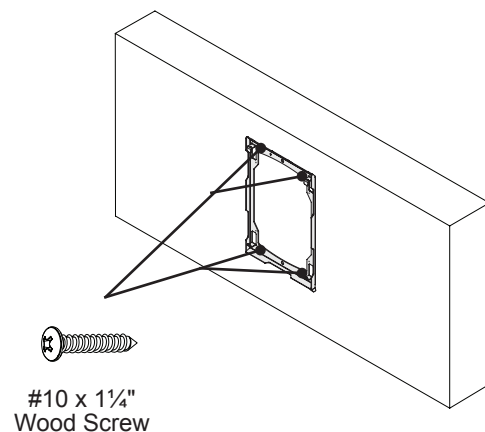

Figure 4
- 8 Insert four (4) #10 x 1¼" wood screws into the corner screw holes to fasten the back plate to the wall (Figure 4).